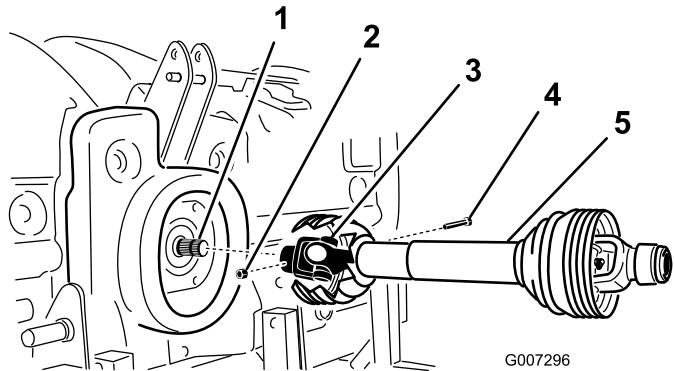

Figure 11
2. Assemble the PTO driveshaft to the gearbox input shaft of the machine (Figure 11) with a bolt (1/2 x 3.00 inches) and a nut (1/2 inch).